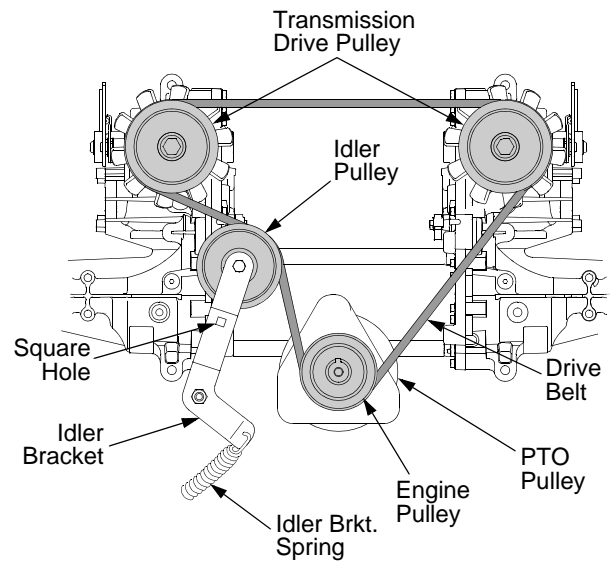

Figure 25
- From beneath the rear of the tractor, insert a 3/8 inch drive ratchet into the square hole of the drive idler bracket. See Figure 25.